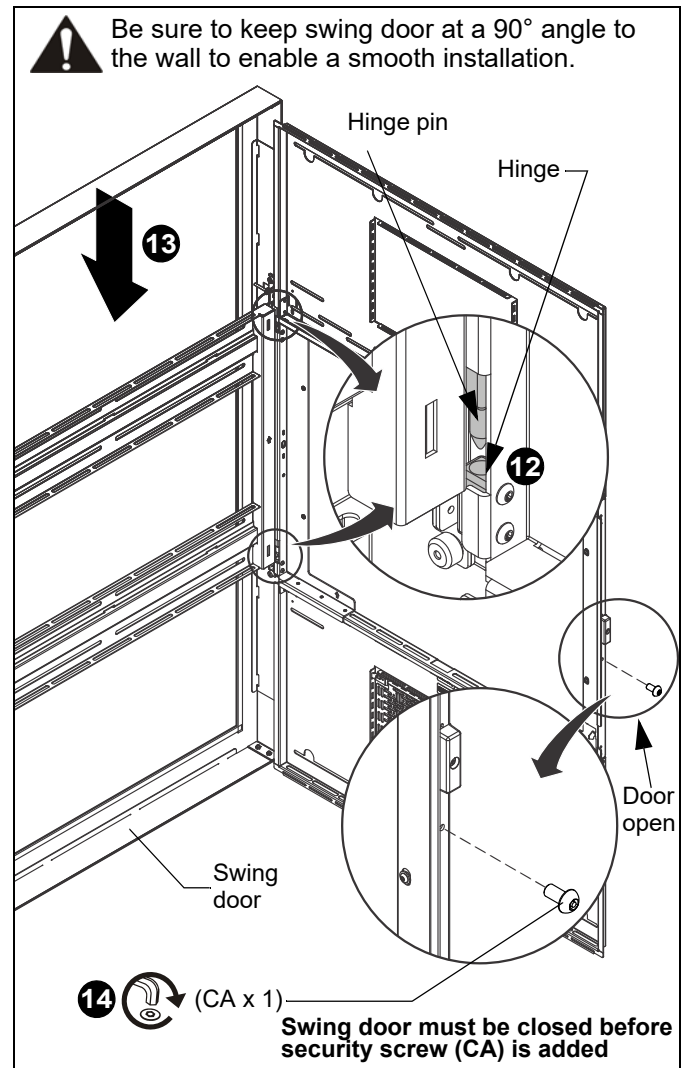

Figure 10
13. Lower swing door to engage hinge pins into hinges. (See Figure 10)
14. Close swing door and add 10-24 x 3/8" button head security screw (CA) in hole below latch to lock door. (See Figure 10)